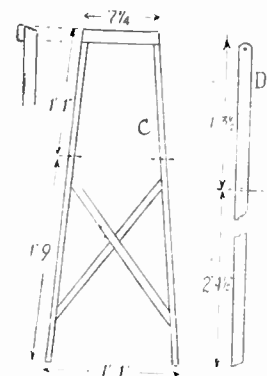

Fig. 2—The folding legs
The folding legs part are shown in Fig. 2. The inner legs (C) are made up first. Cut these from good quality deal, or a hardwood, beech for example, if available. Cut the top crossbar to length, and fix with screws. It will be seen that this pair of legs splay outwards, so space them apart at the bottom to outside measurements of 1 ft. 1 in., and keep them so until the diagonal braces are fitted, then free them. A spare strip of wood nailed across them at the bottom will hold them temporarily in place. This is best done before the top bar is screwed across. Trim this bar to the slope of the legs afterwards.